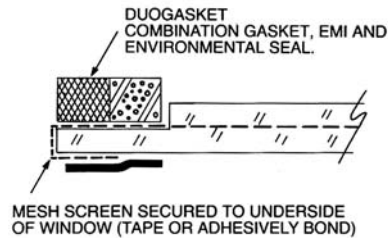

Figure 6-4. Interfacial Gasket, Indirect Contact with Mesh Screens (Most Economical)
3. Interfacial Gasket, Indirect Contact, Conductive Gasketing: the mesh screen is extended along the flat of the step formed in the lamination process and secured to the underside of the window (Figure 6-4). A conductive metallic or elastomer gasket is mounted and bonded to the surface of the step. The gasket should be resilient and compatible with the screen and enclosure materials. Contact resistance must be kept low by means of a low impedance bond, such as a conductive RTV or conductive epoxy. A recommended gasket for this type of application, providing both EMC and moisture barrier, is a knitted mesh bonded to a silicone sponge (see Tecknit DUOGASKET). The knitted mesh strip should utilize tin-plated phosphor bronze (TPPB). TPPB provides highest shielding and environmental compatibility between the shielding screen and the enclosure surface.